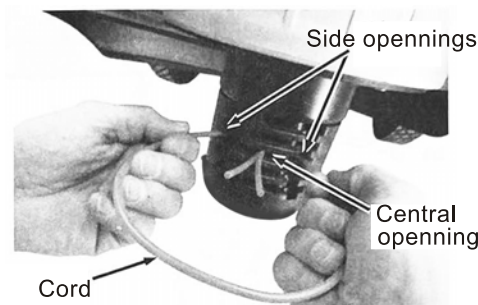

Fig.3
1. Insert the ends of the Cords into the side openings in the string disc(Figure 3).